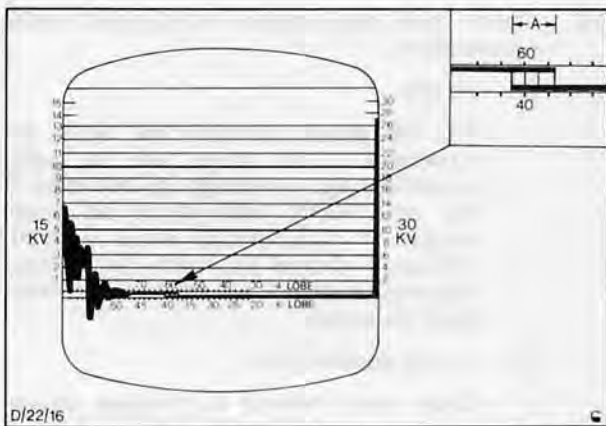

Fig. 23. Dwell overlap shown as 'A'
- (c) Dwell Overlap, Fig. 23 (3° Max).